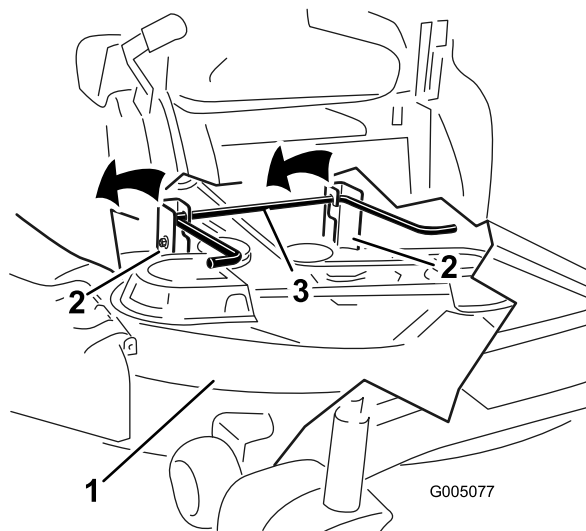
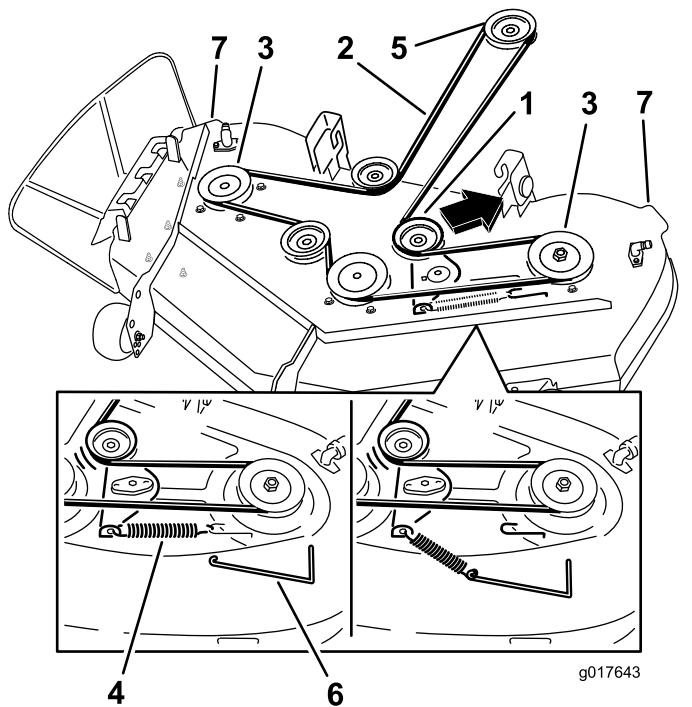

Figure 58
Figure 59
5. Using the mower deck handles, lift the mower deck and hanger brackets clear of the rear lift rod and lower the mower carefully to the ground (Figure 58 and Figure 59).
hook to remove tension on the idler pulley and roll the belt off of the pulleys (Figure 59).
5. Route the new belt around the engine pulley and mower pulleys (Figure 59).
6. Using a spring removal tool, (Toro part no. 92-5771), install the idler spring over the deck hook and placing tension on the idler pulley and mower belt (Figure 59).
5. Lift the rear of the mower deck and guide the hanger brackets over the rear lift rod (Figure 58).